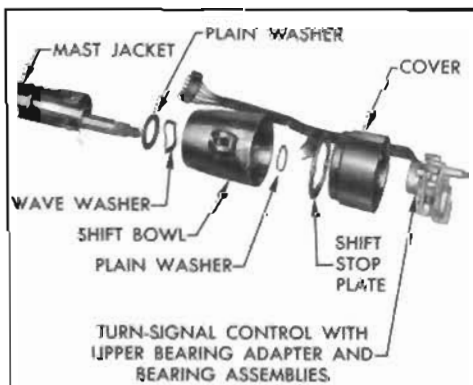

Figure 8-72—Disassembly of Upper Portion of Automatic Transmission Mast Jacket
9. Twist steering column cover in a counterclockwise direction and lift out turn signal control with upper bearing adapter and bearing assemblies, cover, shift stop plate, washer, and shift bowl (see Figure 8-72).